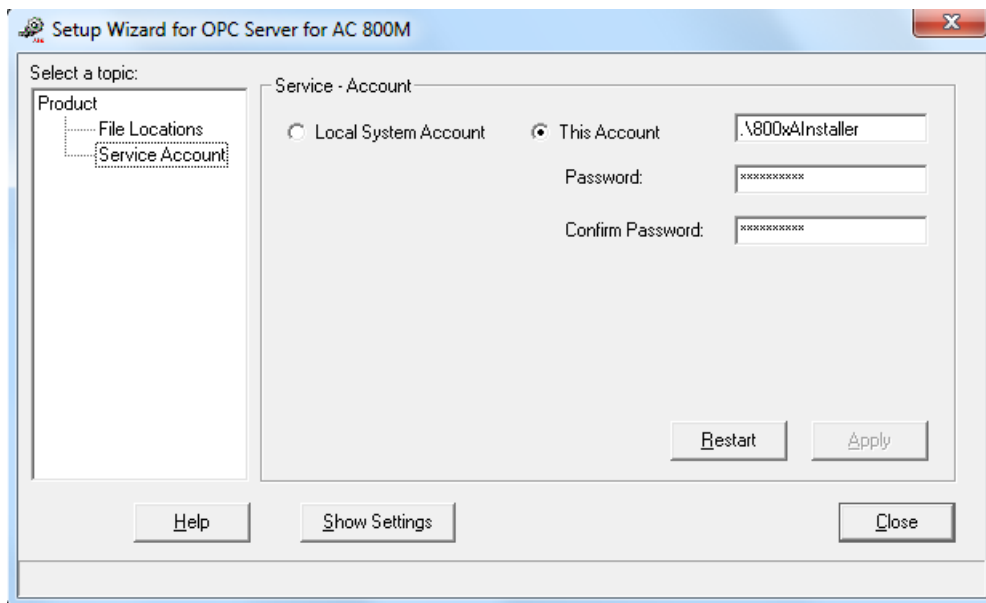

Figure 77. The Service Account topic for OPC server showing the current login name
- If *Local System Account* (see Figure 77) has been selected previously in the Setup Wizard, only members of MyTeam group should login to the PC machine, or the OPC Server is interrupted.
- If *This Account* (see Figure 77) has been selected previously in the Setup Wizard, any user including an operator can login to the PC machine without interrupting the OPC Server traffic.